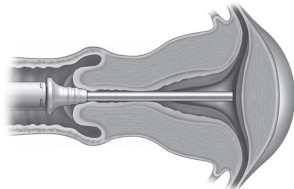

Figure 9
4. Insert the scope and cervical seal tip into the cervix ensuring that the cervical seal tip stays flush against the external os of the cervix as shown in Figure 9. This creates a seal and minimizes leakage of distention media.